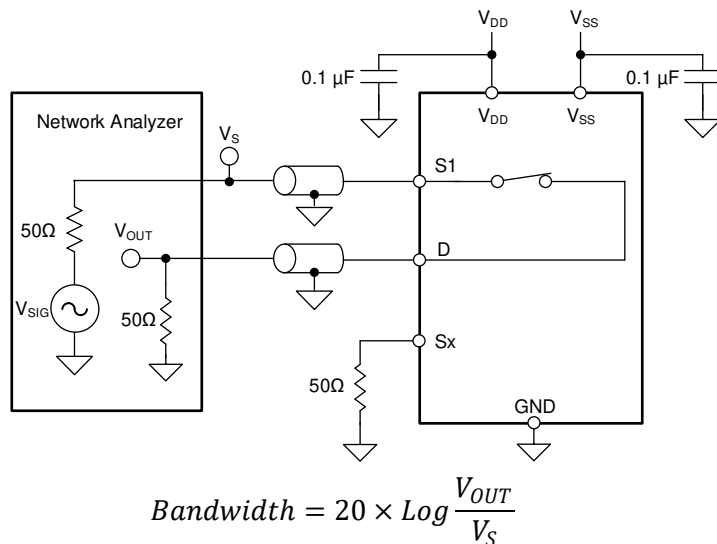

Figure 7-12. Bandwidth Measurement Setup
Bandwidth is defined as the range of frequencies that are attenuated by less than 3 dB when the input is applied to the source pin (Sx) of an on-channel, and the output is measured at the drain pin (D) of the device. Figure 7-12 shows the setup used to measure bandwidth.